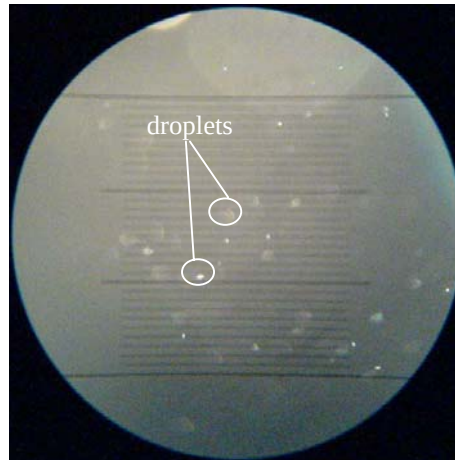

Fig. 12
- Adjust the focussing of the microscope until you see the oil droplets as little white circles (Fig. 12)